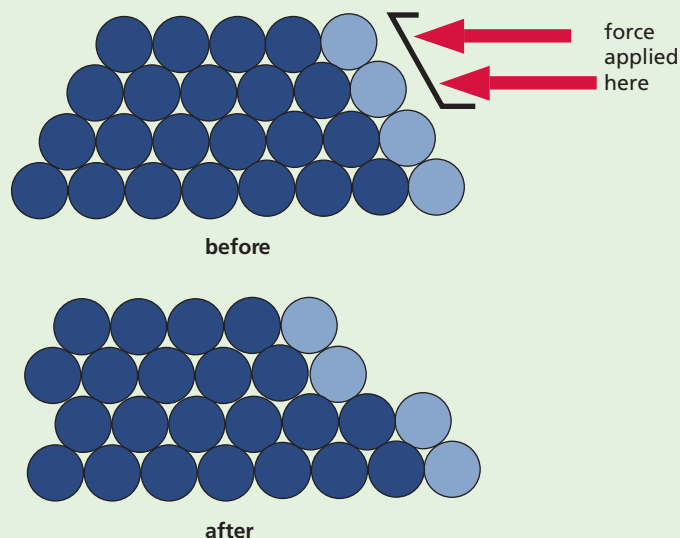

Figure 3.41 The positions of the positive ions in a metal before and after a force has been applied.
- They are malleable and ductile. Unlike the fixed bonds in diamond, metallic bonds are not rigid but are still strong. If a force is applied to a metal, rows of ions can slide over one another. They reposition themselves and the strong bonds re-form as shown in Figure 3.41. Malleable means that metals can be hammered into different shapes. Ductile means that the metals can be pulled out into thin wires.